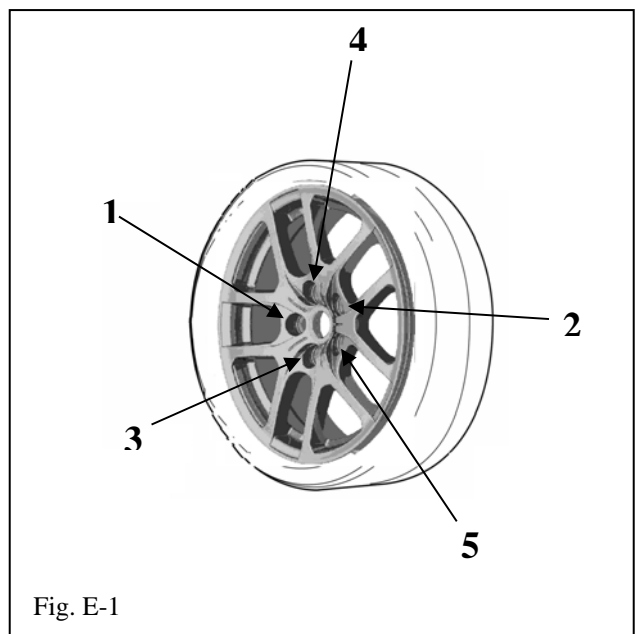

Fig. E-1
- 1. Install wheel/tire assembly on vehicle. Hand start the lugnuts during installation. Tighten lugnuts in sequence 1 through 5. Ensure that the socket does not scuff the wheel. Tighten to 76 lbf•ft (103 N•m) using a torque wrench. (Fig. E-1)